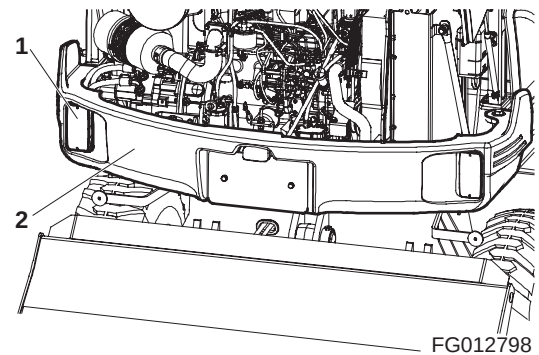

Figure 5
12. Remove two rear lamps (1, Figure 5) from counterweight.
5. Install two rear ramps (1, Figure 5) in the holes (3).